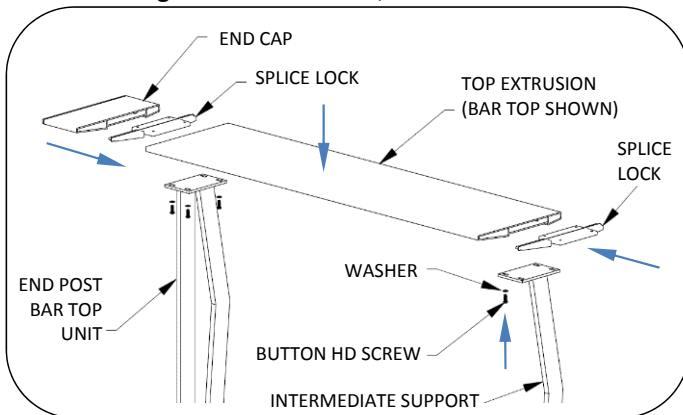

Fig. 6 – Install top extrusions, end cap
1. After first two posts in the run are installed, install the top extrusion. Insert the splice locks into the ends of the extrusions and then attach to the support posts. See Fig 6.
2. Install the end cap. See Fig. 6.